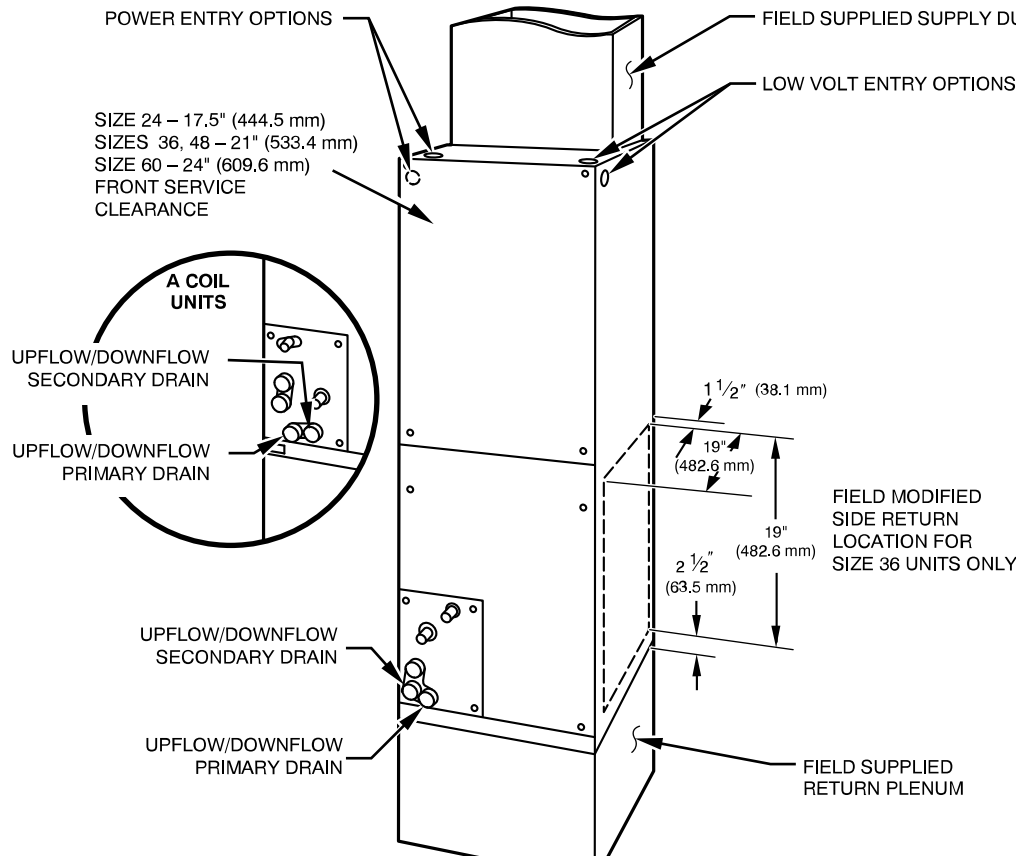
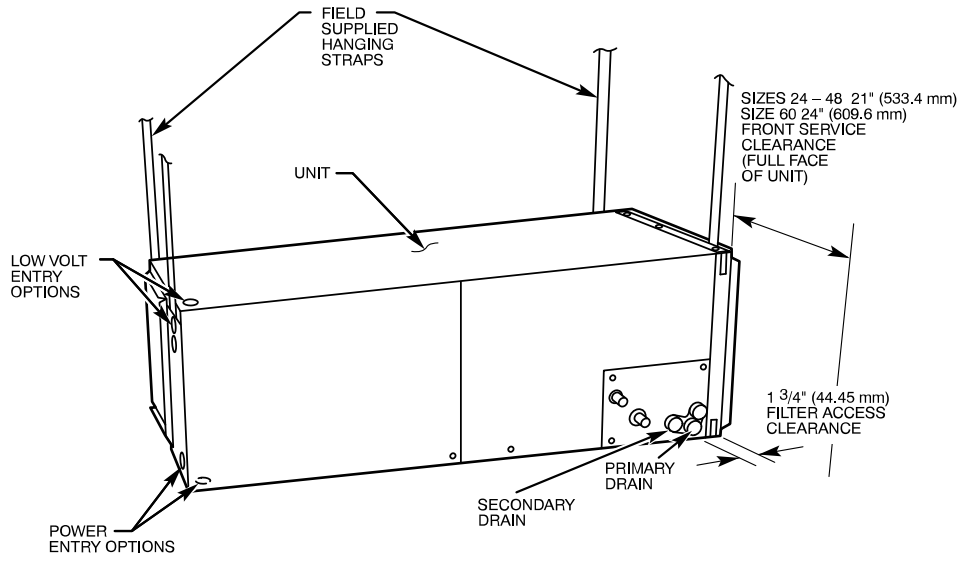
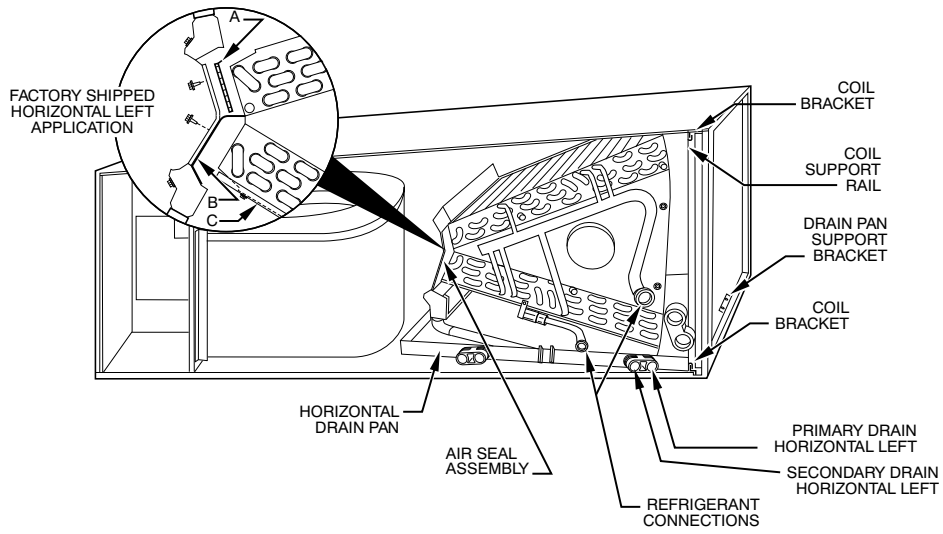

Fig. 1 – Slope Coil Unit in Upflow Application
Fig. 2 – Slope Coil in Horizontal Left Application
Fig. 3 – A-Coil in Horizontal Left Application
FE4 fan coils can be installed for upflow and horizontal-left applications as factory shipped (Fig. 1, Fig. 2, Fig. 3), and may be converted for downflow applications using factory-authorized accessory kits.
Side return is a field option on slope coil models. Cut opening per dimensions (Fig. 1). A field-supplied bottom closure is required.
2. When suspending unit from ceiling dimples in casing indicate proper location of screws for mounting metal support straps (Fig. 2).